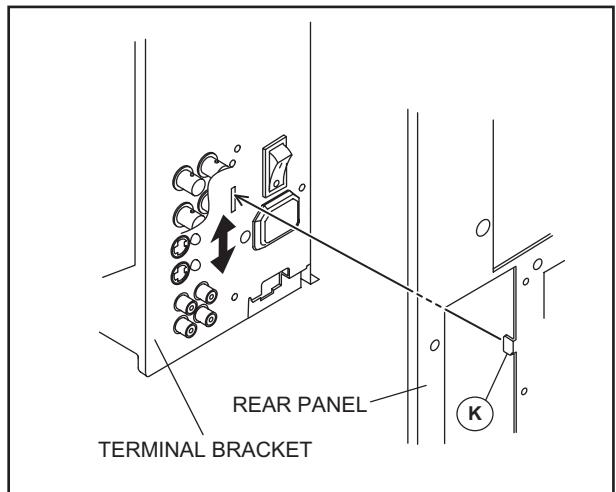

Fig.1
- (3) As shown in Fig.1, lift the rear panel and remove the claw [K] from the terminal bracket.
- (4) Shift the top portion of the REAR PANEL slightly rearward and raise it upward to remove it.